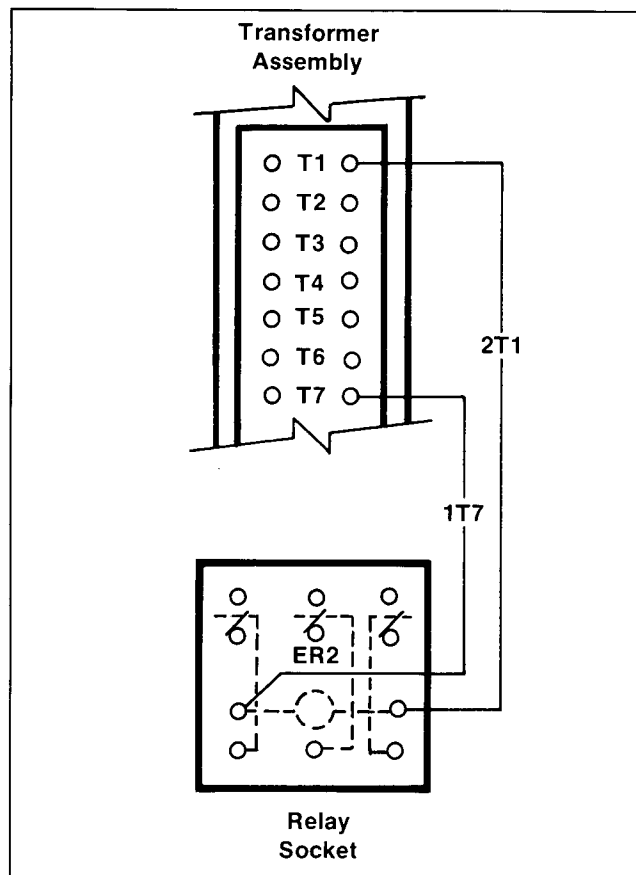

Figure 26. 14-D Connections
- **Acc. 14-D—Three Sets of Contacts on Emergency Side.** This relay is provided with accessory 29-B, 29-D, 29-F, and 29-G which then allows only 2 sets of contacts available for other use. See Figure 26 for connections.